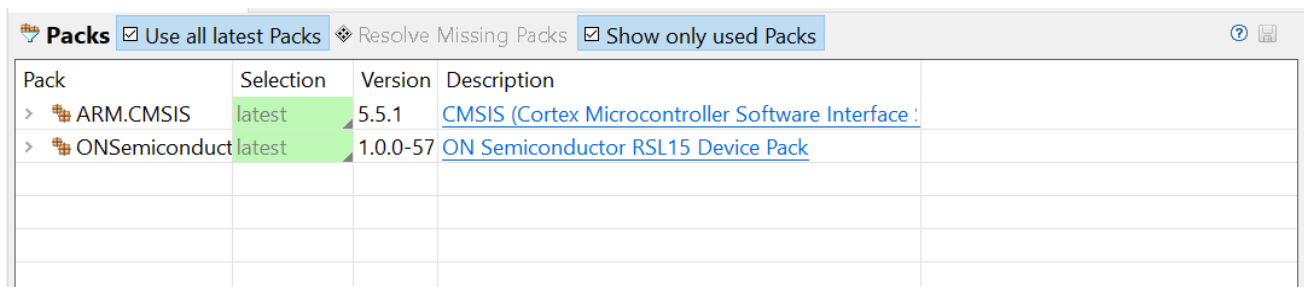

Figure 48. RTE Configuration Perspective After Resolving Pack Dependencies
- The IDE prompts you to read and accept the license agreement, then installs the missing Packs. The "RTE Configuration Perspective After Resolving Pack Dependencies" figure (Figure 48) illustrates the RTE configuration after resolving missing Packs.